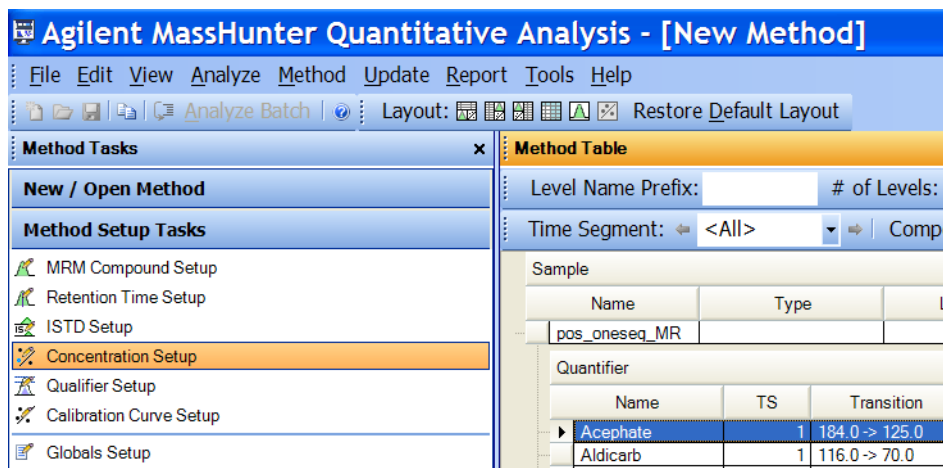

Figure 27 Concentration Setup under Method Setup Tasks
- c** In the Quantitative Analysis program, from the **Method Setup Tasks** list, click **Concentration Setup**. See Figure 27.